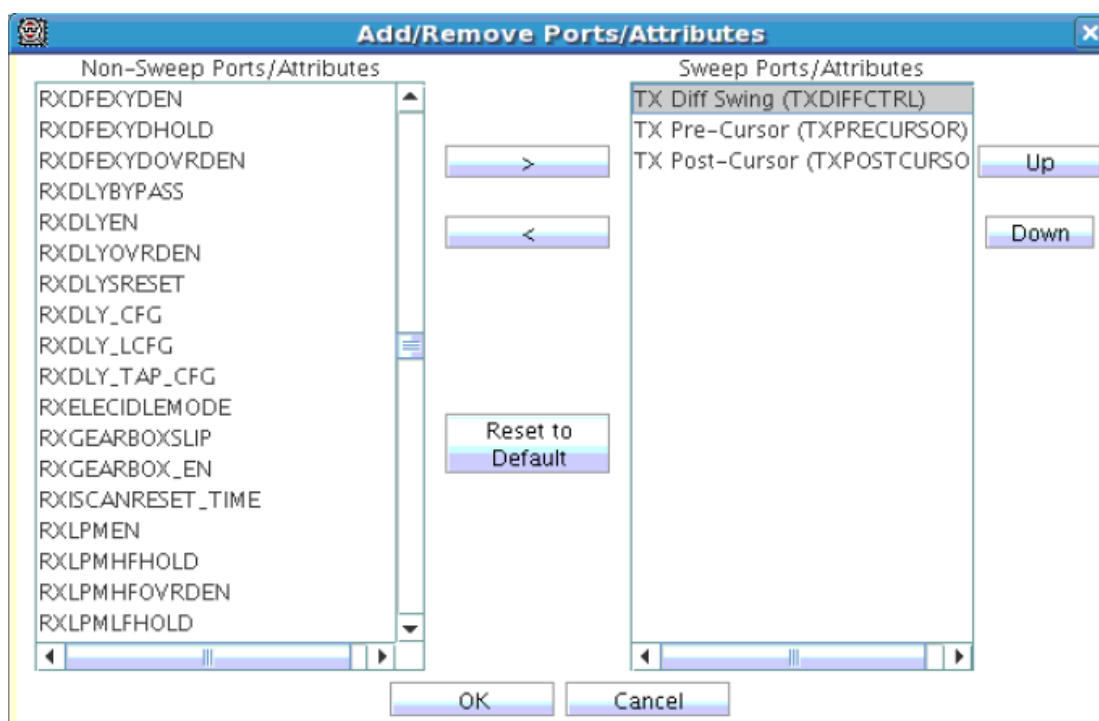

Figure 9: Sweep Settings Options
4. In the Add/Remove Ports/Attributes dialog box, shown in Figure 9, select the parameters listed below and place them in the order shown: